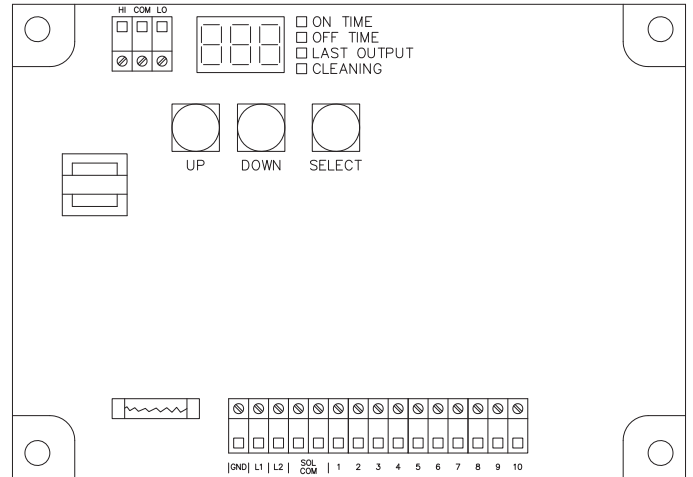

FIG 7
4. The timer control board is preset at the factory to have a cleaning pulse duration of 2 seconds. This can be adjusted from .05 seconds to 600 seconds. To adjust this time press the select button on the timer board until the on time LED is lit. Press the up/down buttons until the desired value is displayed. Press select to set the new value (see FIG 7).